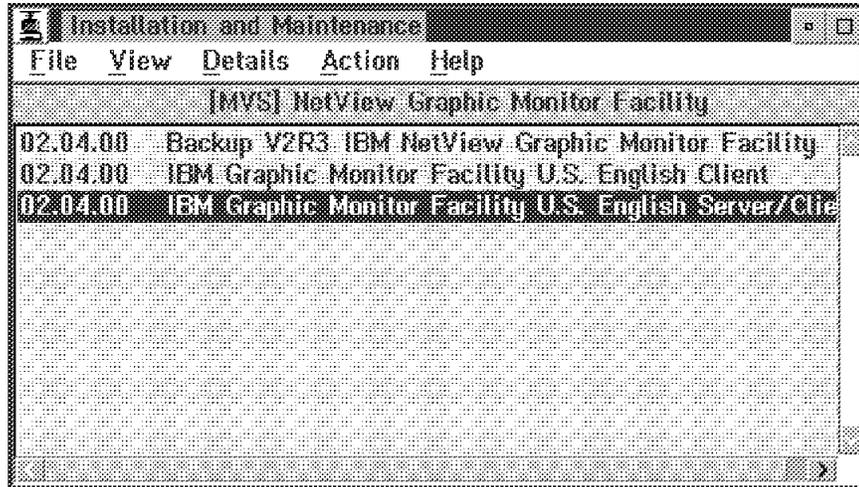

Figure 116. Installation and Maintenance Window
As a result of the previously discussed DUIINSTS command, Software Installer for OS/2 should present a window like the one shown in Figure 116.
- Select **OK** to return to Figure 116 on page 124. You can now repeat the sequence to install the other MSM towers (same host data set, member flc001cb for LNM, flc001cd for NetWare) or exit.